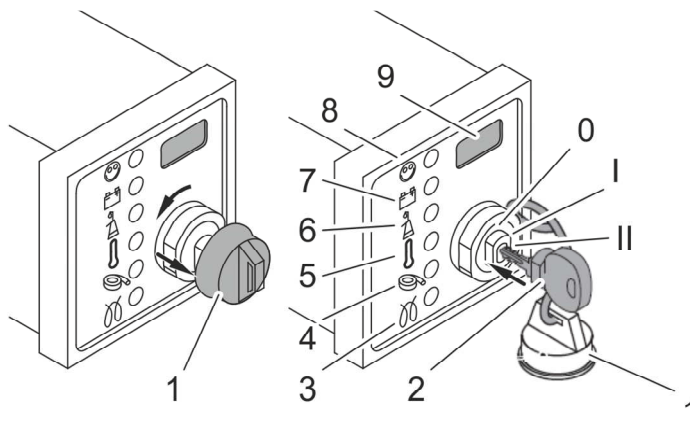

FIGURE 6.5 Starter
(1) - protective cap; (2) - ignition key; (3-8) information and warning indicators; (9) - working hours counter - option
- Remove the protective cap (1) from the ignition switch (FIGURE 6.5).
- Insert the ignition key (2) into the ignition switch and turn to the "I" position.
- Wait until the engine preheating indicator (3) goes out, then turn the key to position "II".
- ⇒ The key returns to position "I" and remains in this position during the engine operation. The battery charging indicator light (7) and the oil pressure indicator (6) go out. The working indicator (8) lights up and shows that there is no engine fault. The next start-up can be performed after the ignition is reset (the key in "0" position).